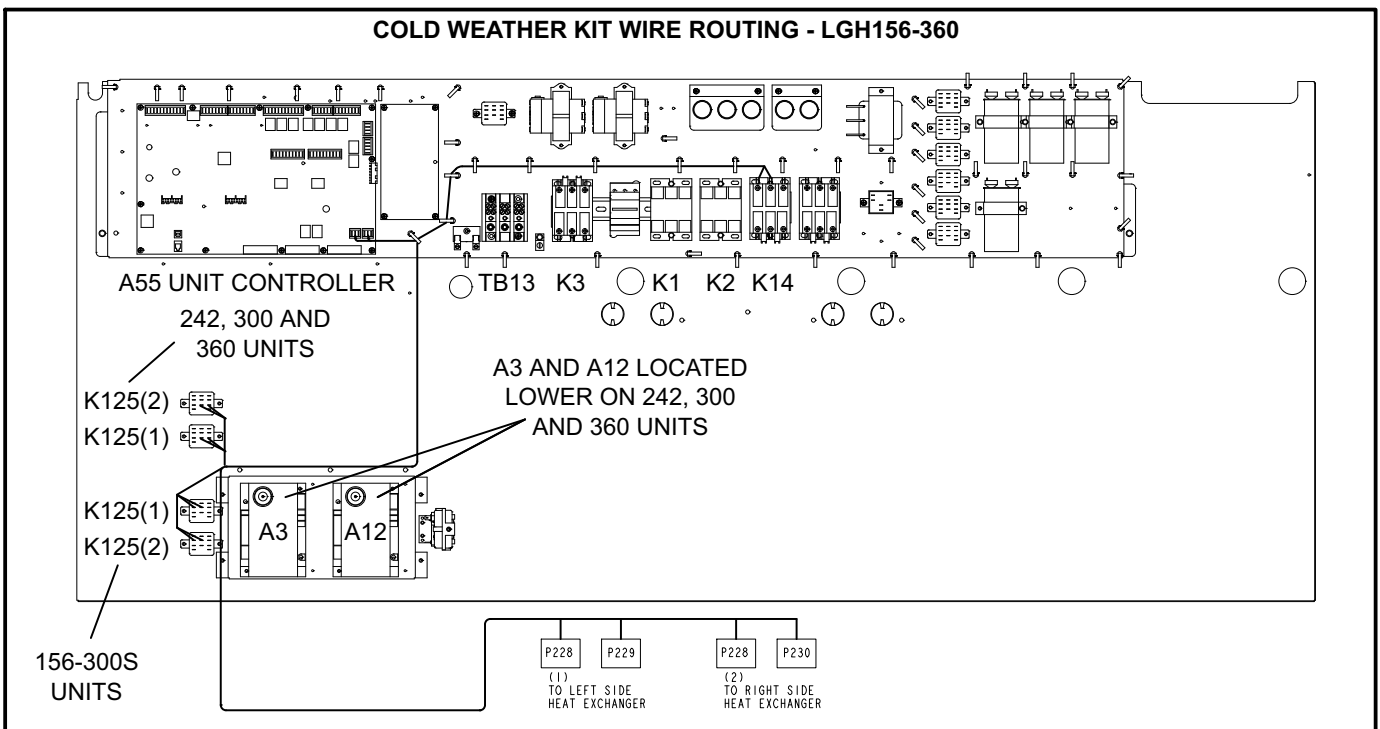

FIGURE 9
- 3- Install both K125 relays in control area above compressors. Secure with #8 screws. See figure 9.
- 4- Locate harness labeled 604784-01 and route as shown in figure 9. Secure with wire ties. Discard harness labeled 604785-01.
- 4- Locate harness labeled 604785-01 and route as shown in figure 9. Secure with wire ties. Discard harness labeled 604784-01.